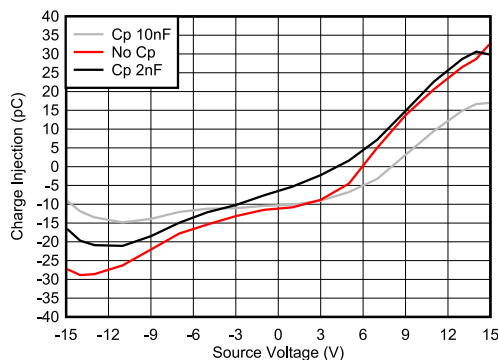

图 8-2. Charge Injection Compensation
The TMUX720x contains specialized architecture to reduce charge injection on the Drain (Dx). To further reduce charge injection in a sensitive application, a compensation capacitor (C_p) can be added on the Source (S). By design, the excess charge from the switch transition will be pushed into the compensation capacitor on the Source (S) instead of the Drain (D). As a general rule, C_p should be 20x larger than the equivalent load capacitance on the Drain (D). 图 8-2 shows charge injection variation with different compensation capacitors on the Source side. This plot was captured on the TMUX7219 as part of the TMUX72xx family with a 100 pF load capacitance.